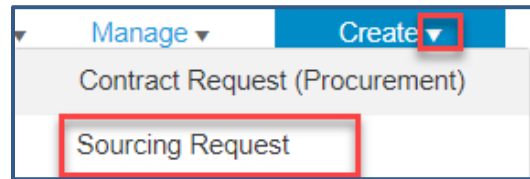

Figure 2
- At the top right, select the ▼ symbol beside **Create** to expand the menu, then select **Sourcing Request** (Figure 2).